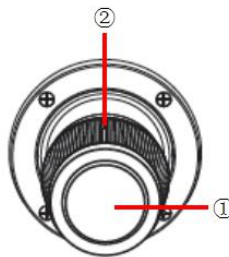

Figure 1.5-1 Joystick
3. In Figure 1.5-1, '①' is the central button which can be used as Enter button; '②' is used to control the zoom (Clockwise rotation is for zoom in while counterclockwise rotation is for zoom out).